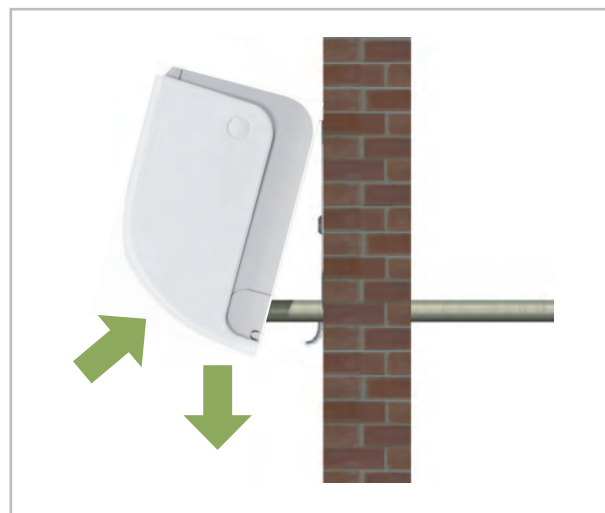

Fig. 37: Horizontal positioning
5. Check again that the unit is level. (Fig. 37)